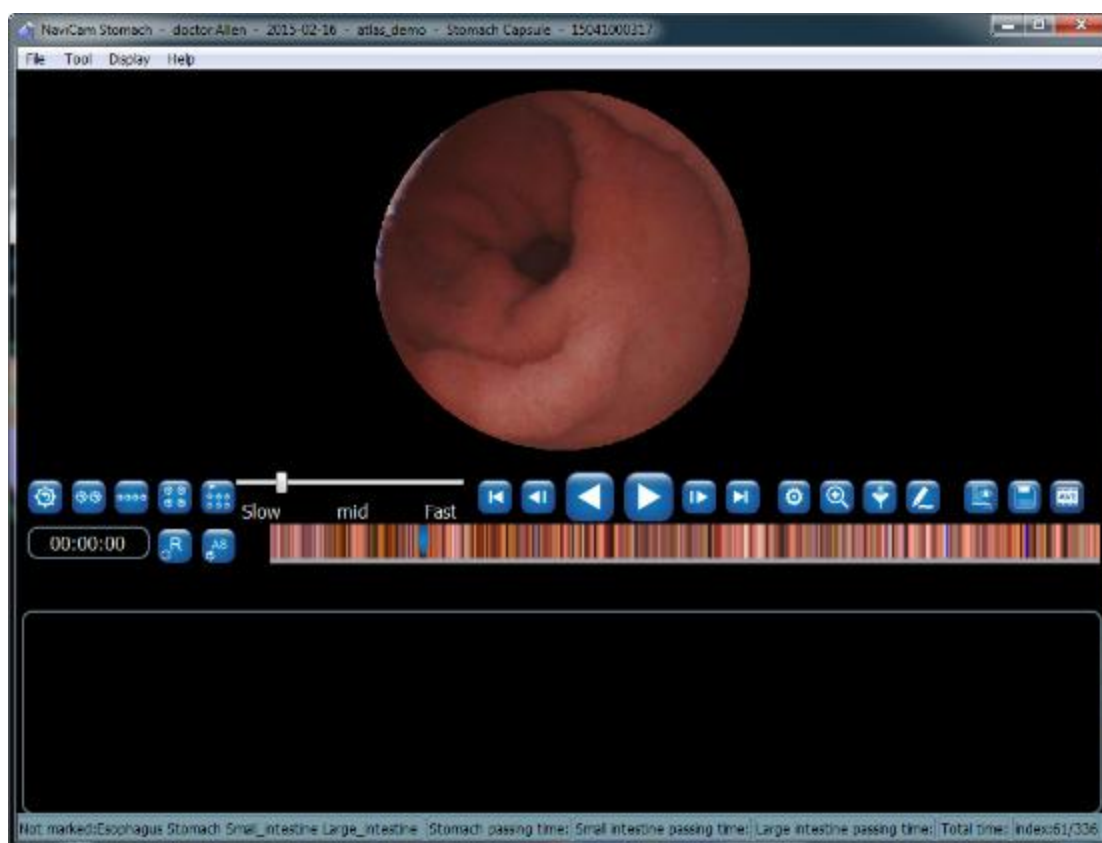

Figure 4-54 Video Play Interface
4. Access to image browsing interface as shown in Figure 4-12, click “File” → “Open Video” to access video play interface as shown in Figure 4-54, schematic view of capsule endoscope and translational rotation platform simulation will be displayed in the lower left part of the interface, the schematic view may display four human body postures (lying on back, lying face downward, lying left lateral position, lying right lateral position), as shown in Figure 4-55, Figure 4-56, Figure 4-57, and Figure 4-58, schematic view of capsule attitude changes with real-time capsule attitude, Figure 4-59 and Figure 4-60 displays specifically capsule up attitude (capsule captures image of magnetic ball when it is on examination bed) and capsule down attitude (capsule captures image of mattress when it is on examination bed), schematic view of translational rotation platform changes with up, down, left, right, front, and back movement of the translational rotation platform, right movement is shown in Figure 4-61, left movement is shown in Figure 4-62, back movement is shown in Figure 4-63, front movement is shown in Figure 4-64, up movement is shown in Figure 4-65, and down movement is shown in Figure 4-66.